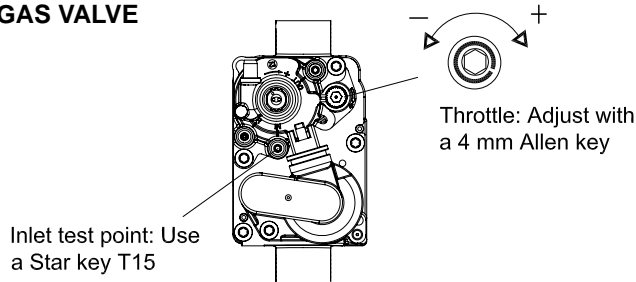

Fig. 35
- 2 - Check gas mains pressure at the gas valve test nipple upstream (fig.35) with boiler operating (sect.6.8).
Check the gas mains pressure at the gas valve inlet pressure test point (fig.35) with the boiler operating at full rate.
The Gas Valve Throttle adjuster is required to be sealed with tamper proof paint after adjustment (fig. 35).
Referring to the table 10, adjust the maximum level of CO₂ with the Throttle using a 4 mm hex on the gas valve (fig.35). Anti-clockwise to decrease CO₂.